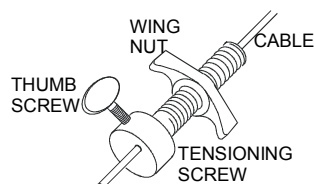

Figure 59
4. Feed each bare cable end into the hole at the threaded end of the cable tensioning screw (see **Figure 59**).
6. Whilst holding the cable tensioning screw in the box pull the cable taught and, without releasing the tension, tighten the thumb screw firmly (see **Figure 59**). Repeat this procedure with the other cable.